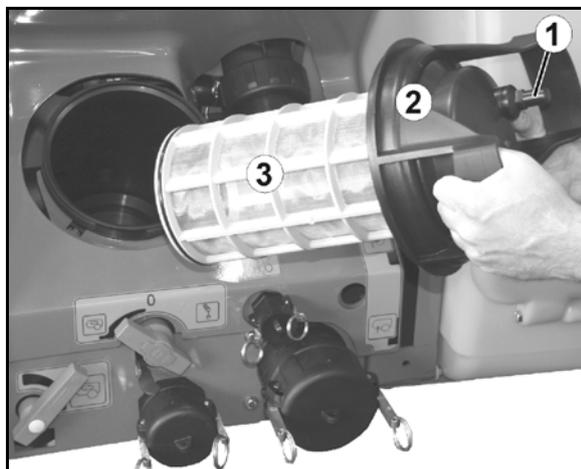

Fig. 147
Clean the suction filter (Fig. 147) on a daily basis after cleaning the field sprayer.
1. Unscrew the cover of the suction filter (Fig. 147/2).
2. Remove the cover with suction filter (Fig. 147/3) and clean with water.
6. Unscrew the cover of the suction filter (Fig. 147/2).
7. Activate the relief valve on the suction filter (Fig. 147/1).
8. Remove the cover with suction filter (Fig. 147/3) and clean with water.